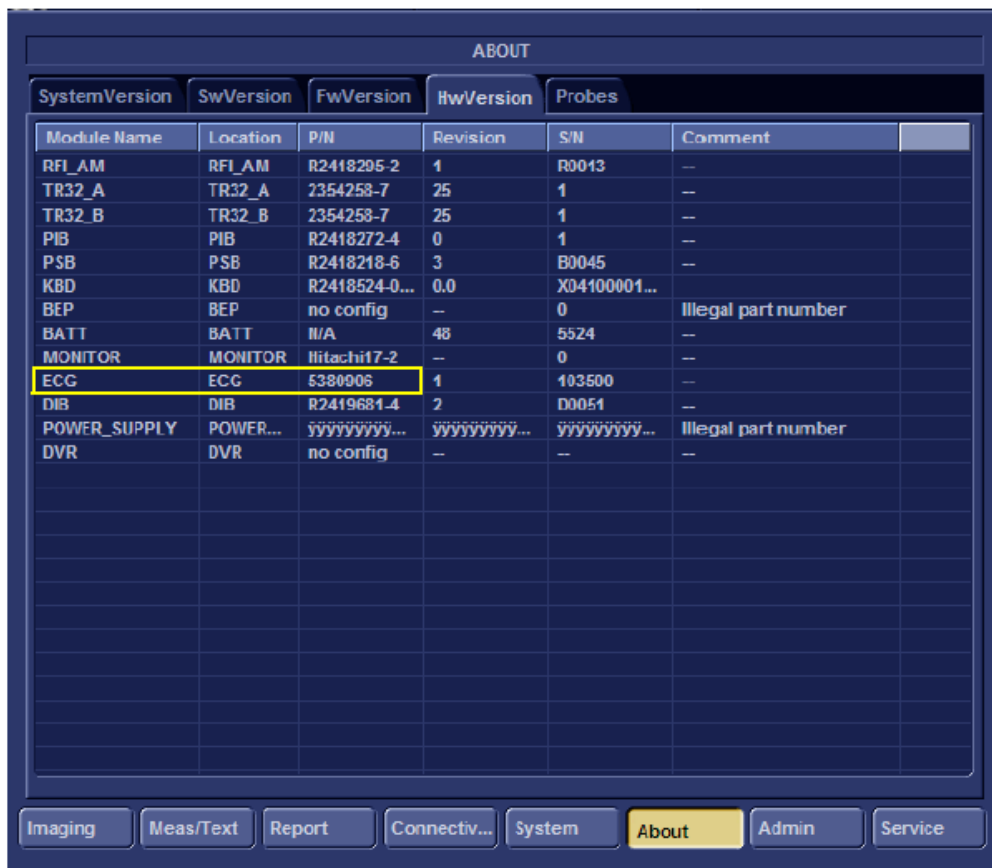

Figure 8-22 Hardware Version Verification
- 10.) Verify that the correct ECG/Respiratory module Part # is displayed, as shown in Figure 8-22.